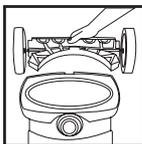

FIGURE 8
10. Install tool rack assembly onto dolly (already installed on tank) by placing large slot in tool rack over rim on back of dolly. **FIGURE 8.** Push tool rack onto dolly until the bottom of tool rack is flush with bottom of dolly. **NOTE:** It is normal for tool rack to fit tightly onto dolly.